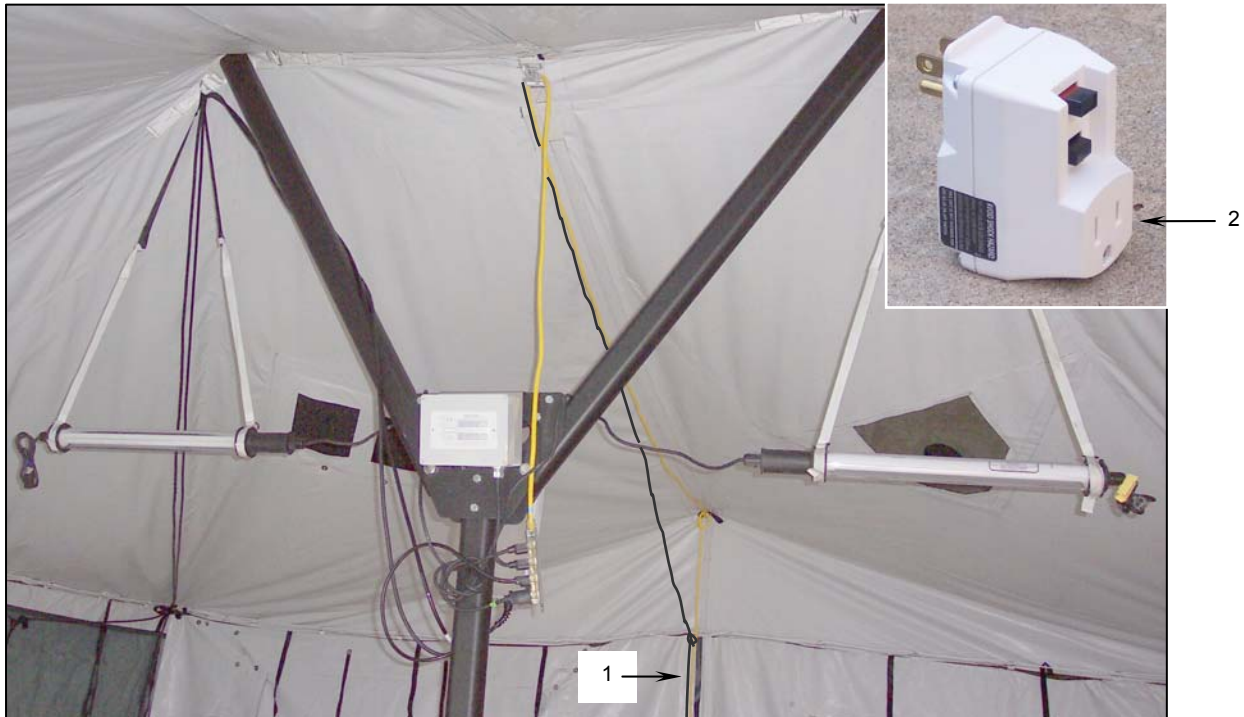

Figure 32. Unplug 100-ft Extension Cord and GFCI.
- a. Unplug the 100-ft extension cord (**Figure 32, Item 1**) from the outlet at the AC power source.
- b. Unplug the GFCI (**Figure 32, Item 2**) if used.